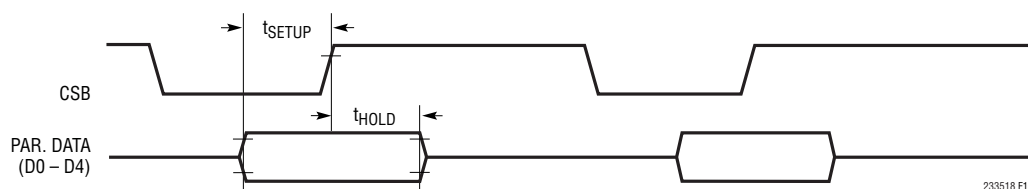

Figure 16. Parallel Timing Diagram
The IF gain can be programmed directly using the parallel input pins (pins 17 – 21) when the Parallel Select pin (PS) is set high. (See the Pin Functions section for descriptions of the parallel data input pins.) As illustrated in Figure 14, the parallel data input pins are connected to an internal data latch and the CSB pin functions as the latch enable. When the CSB input transitions from logic low to high, the data present at pins 17 – 21 are latched in and take effect. See Figure 16 for timing details.